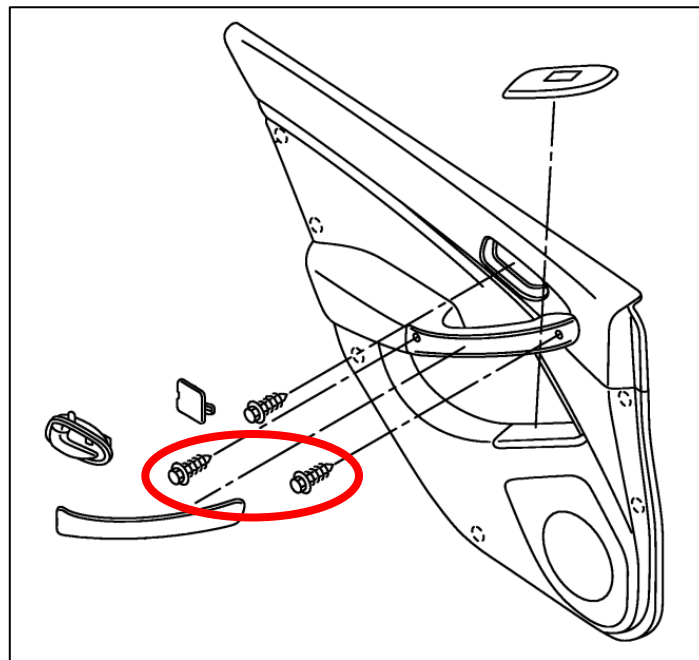

Figure 30
8. Remove the (2) two 10mm Bolts securing the Door Panel to the Door. *Figure 30.*